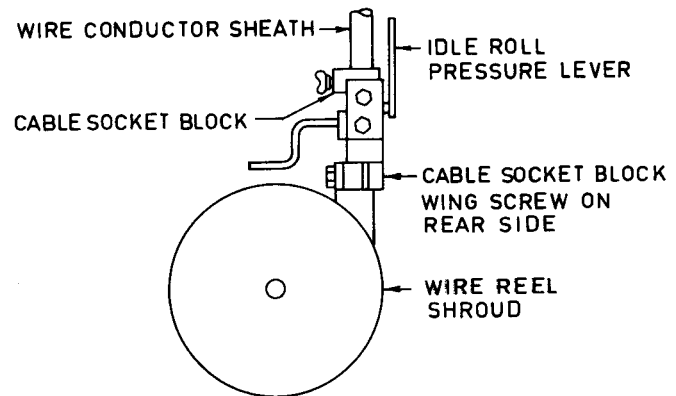

Figure 9
- Install the hand crank into the socket as shown in Figure 9, and tighten the wing screw.